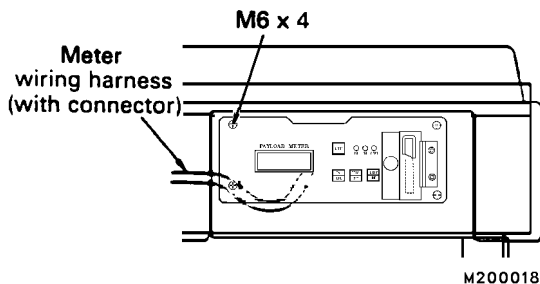

FIGURE 20-7. REMOVING PAYLOAD METER
3. Remove the four mounting screws holding the payload meter in position and then pull the payload meter out, away from the instrument panel (Figure 20-7).